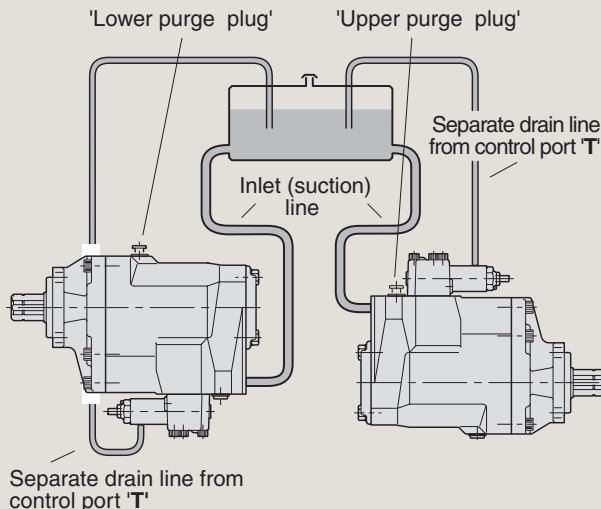

Fig. 6. Purging the VP1.
4. The pump should be installed below the lowest oil level in the reservoir (fig. 6, pg. 5);
5. A separate drain line must be installed between the control drain port T and the reservoir (refer to fig. 6, pg. 5); connect the drain line directly to the oil cooler (if the hydraulic system is so equipped).
- The pump must be filled with fluid and then purged before start-up (fig. 6).
- As previously pointed out, a separate drain line is required between control port T and the reservoir (fig. 6).